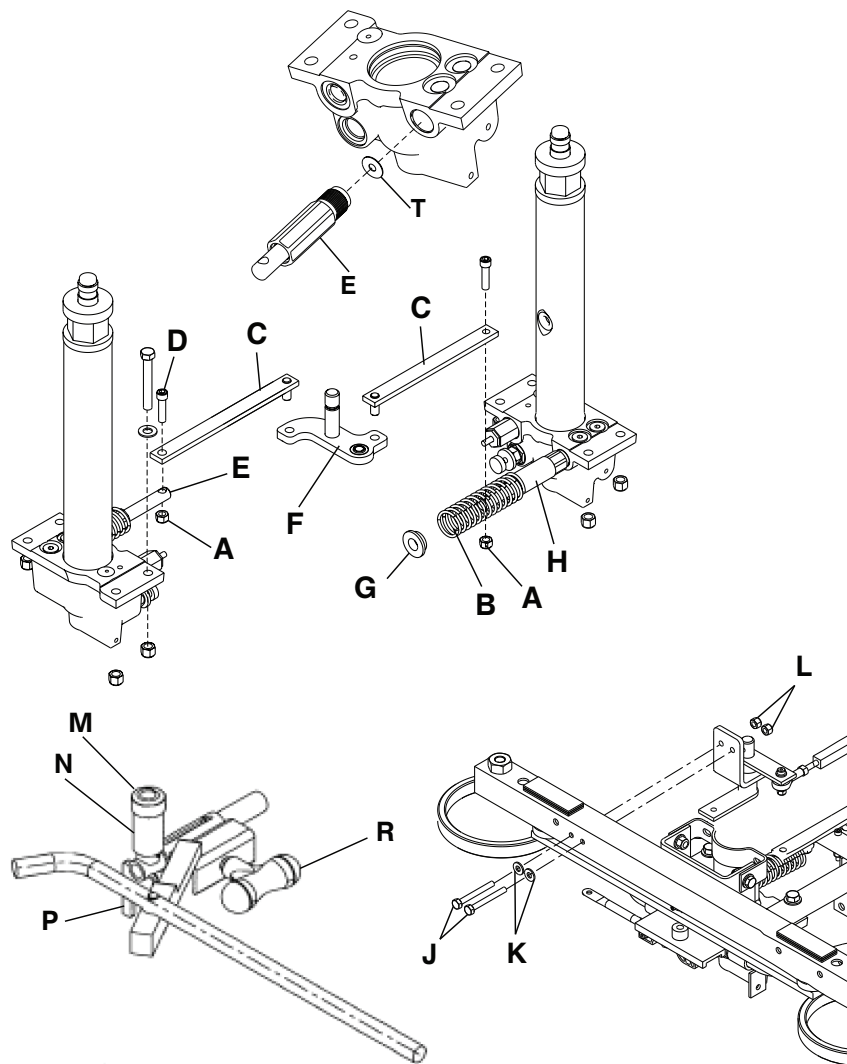

Figure 6 – Jack pump piston replacement
4. Using an 3/8" hex wrench and a 1/2" combination wrench, remove the locking nut (A) from under the pump piston (Figure 6). Save the locking nut.